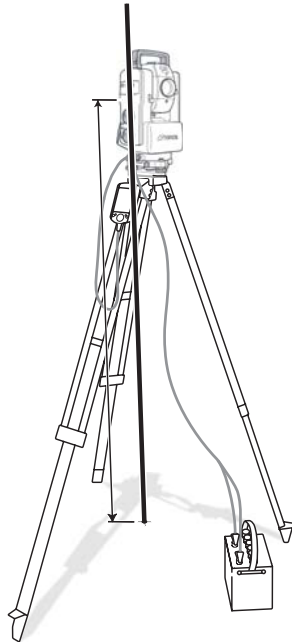

Figure 8-3. Measure Base Station Antenna Height
Step 4: measure the GRT-2000 from the control point to the center index of the GRT-2000, using the slant distance shown in Figure 8-3. This measurement will be used when initializing the GRT-2000 using Pocket-3D.